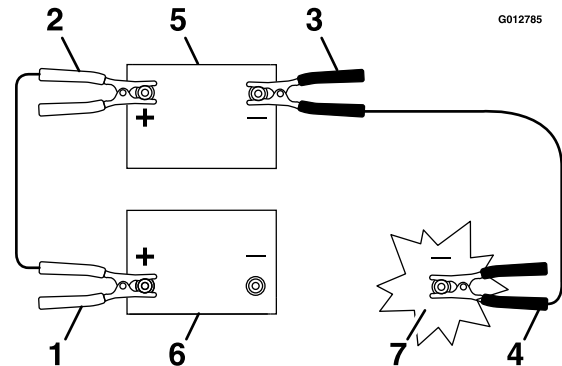

Figure 46
3. Connect the positive (+) cable to the positive (+) terminal of the discharged battery that is wired to the starter or solenoid (Figure 46).